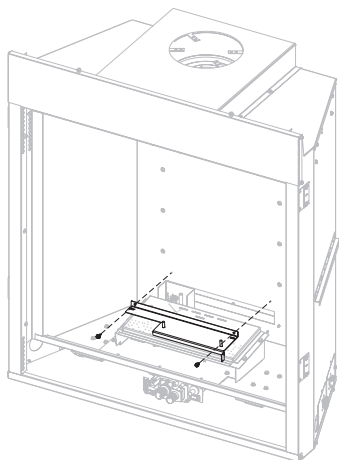

Figure 9
6. Remove log support by removing the two screws securing the metal plate to log support. Retain log support and screws for reassembly. **See Figure 9.**
17. Reinstall the log support and secure it with metal plate and two screws removed in step 6. **See Figure 9.**